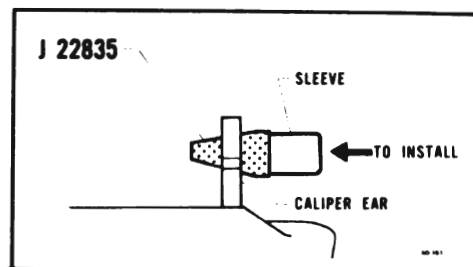

Figure 50-37--Sleeve Installation
2. Use Tool, J-22835, to install the sleeves. See Figure 50-37. Position the sleeves so that the end toward the shoe and lining assemblies is flush with the machined surface of the ear.